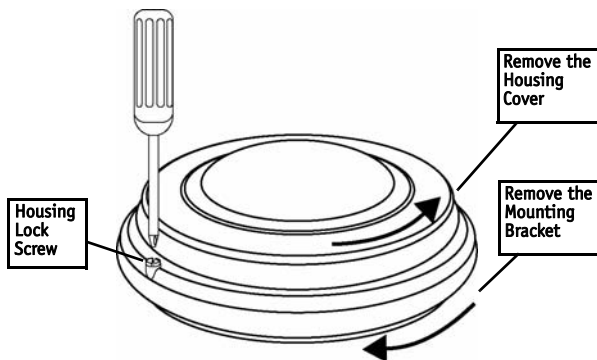

Figure 1 Remove the Housing Cover and Mounting Bracket
1. Loosen the housing lock screw (Fig. 1).